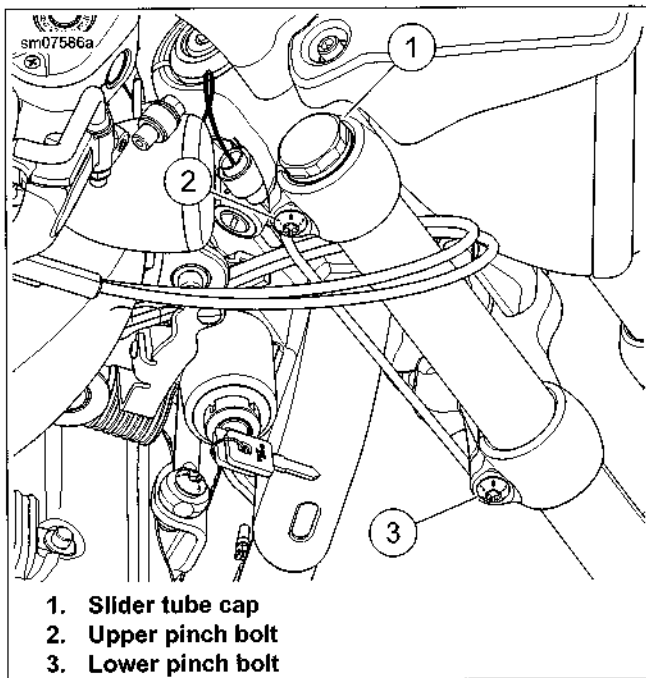

Figure 2-88. Fork Tube Bracket
6. See Figure 2-88. Loosen the front upper pinch screws (2).
7. Loosen, but do not remove, slider tube caps (1).
8. Loosen lower bracket pinch screws (3). Remove fork assemblies from fork brackets.